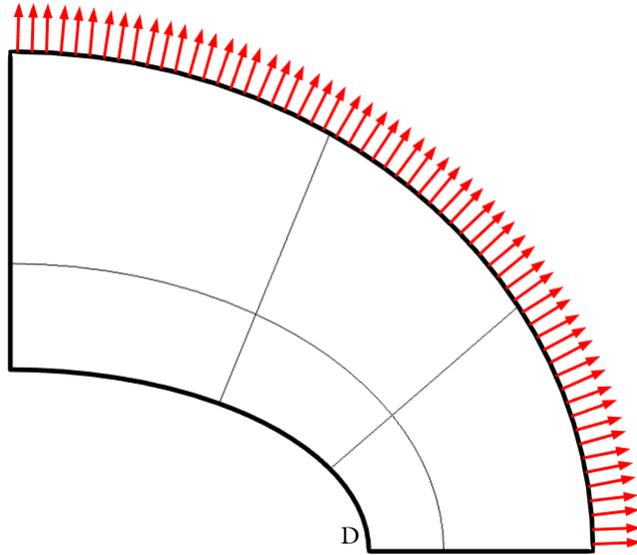

Figure 1: The geometry and load. Only the quarter which is analyzed is shown.
Due to symmetry in load and in geometry, the analysis only includes a quarter of the geometry as shown in Figure 1.
- The knowledge about where a stress concentration is expected suggests that you should use a mesh such that more elements are present in the region around point D to get optimal accuracy, see Figure 1.
The normal stress σ_y at the elliptic hole is evaluated at the point D located at $X = 2, Y = 0$ (see Figure 1). The target value according to Ref. 1 is 92.7 MPa. The value is based on an analytical result. The COMSOL Multiphysics results for the “coarse” and “fine” meshes are given in Table 1.